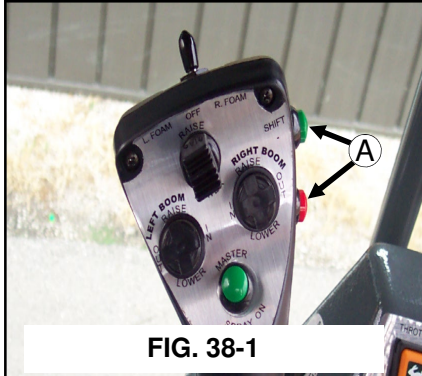

FIG. 38-1
1. Speed ranges are selected by a red (decrease speed range) and green (increase speed range) electronic switch mounted on the hydrostatic lever (fig. 38-1, item A). The lower the setting, the higher the torque, but the lower the speed.